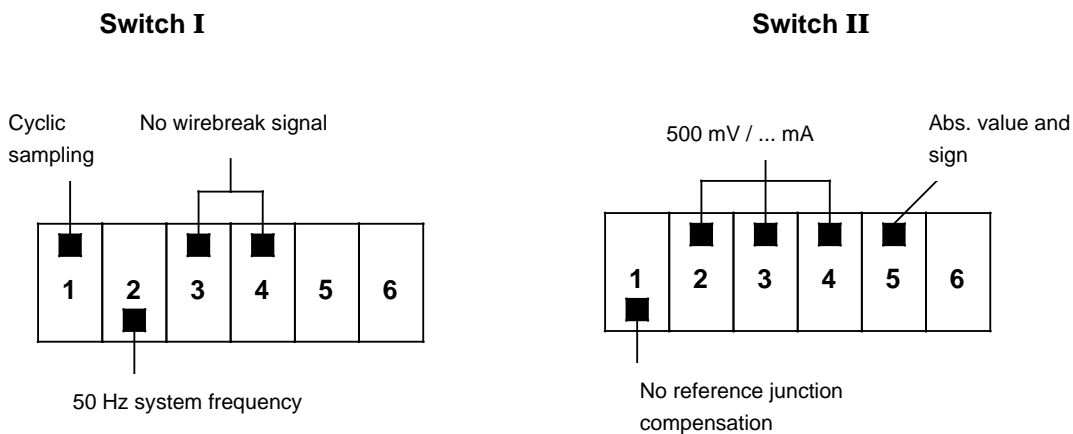

Figure 7-19. Setting Mode Selectors I and II
- Set the mode selectors at the rear of the module as follows (Figure 7-19):